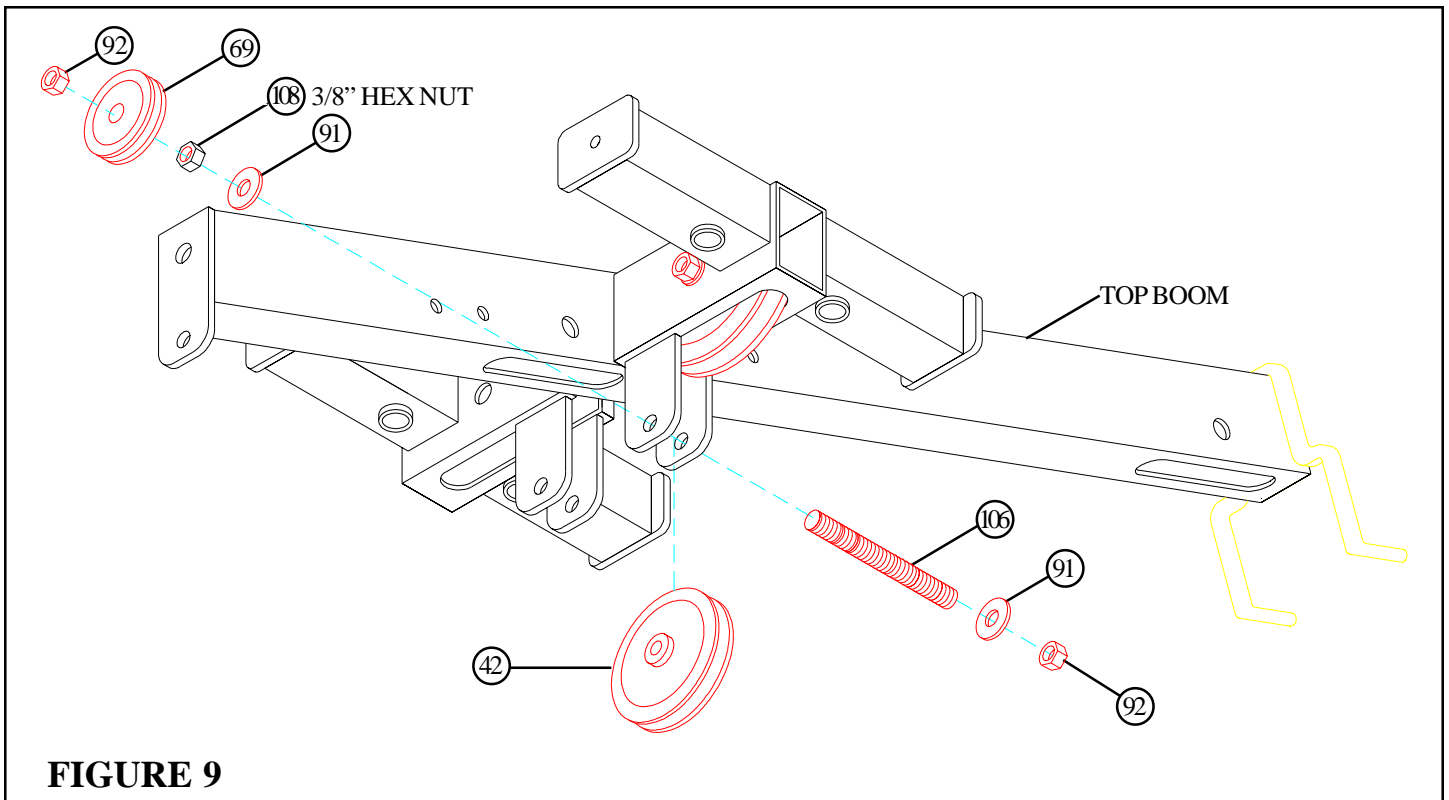

FIGURE 9
- **SECURELY** assemble one 3-1/2" PULLEY (42) to the bracket on the TOP BOOM using one 3/8" THREADED SHAFT (106), two 3/8" WASHERS (91), one 2" PULLEY (69), one 3/8" HEX NUT (108) and two 3/8" LOCK NUTS (92). See FIGURE 9.